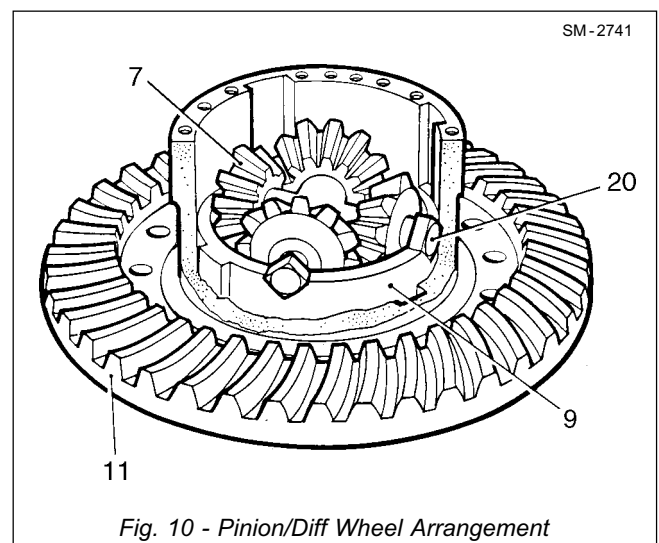

Fig. 10 - Pinion/Diff Wheel Arrangement
7. Install wheel (8) into cage half (9) engaging splines with both friction plates (10) and end face hard against thrust washer (15).
8. Assemble pinions (7) onto trunnion (20) and lay assembly in place in cage half (9), in mesh with wheel (8) as shown in Fig. 10.
9. Add remaining wheel (8) and cage half (9).
10. Stack alternate friction and steel clutch plates (10 & 44) then check that diff cage half (9) and clutch plates will slide in differential housing body (13) by raising and lowering diff wheel (8).